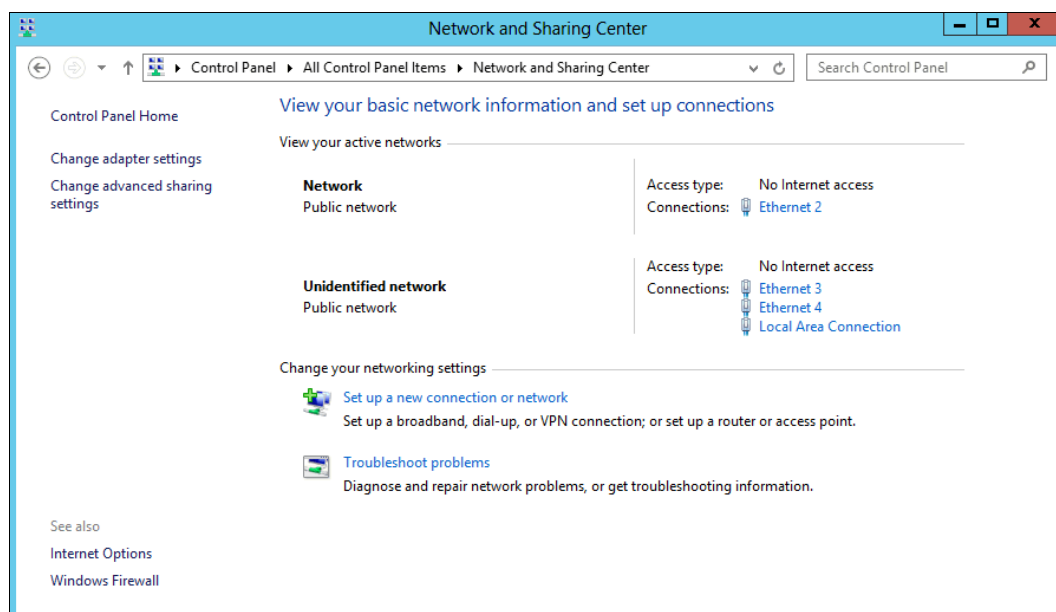

Figure 5-13 Network and Sharing Center in Windows 2012 R2
1. Go to **Control Panel** → **Network and Internet** → **Network and Sharing Center**. The window that is shown in Figure 5-13 opens.